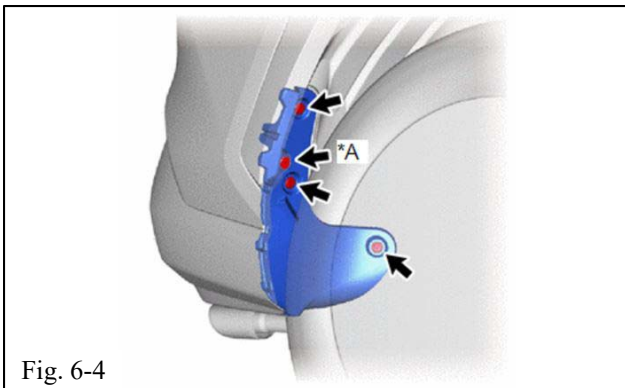

Fig. 6-4
- (f) Remove the (4) clips to remove the rear bumper side seal **RH with mudguard for short type** (Fig. 6-4).